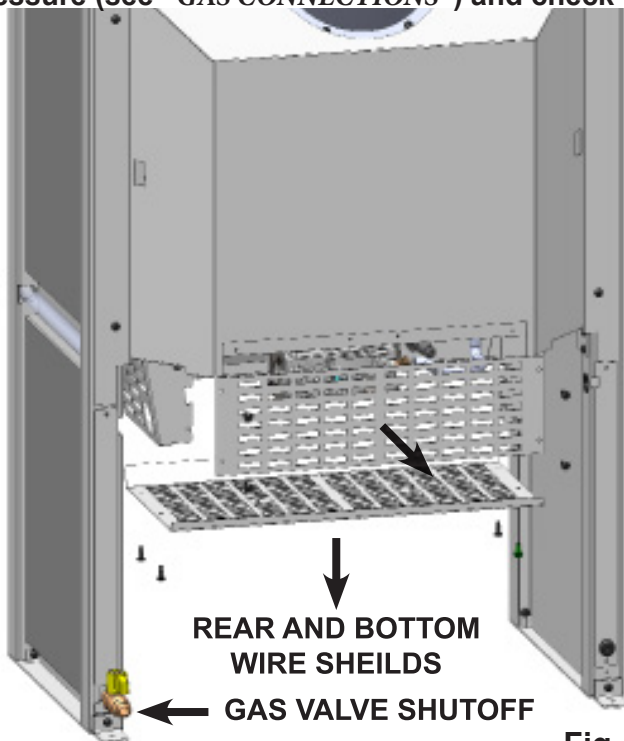

Fig. 17
3. Remove the bottom and rear wire shields (7 screws, 1 ground) (Fig. 17).